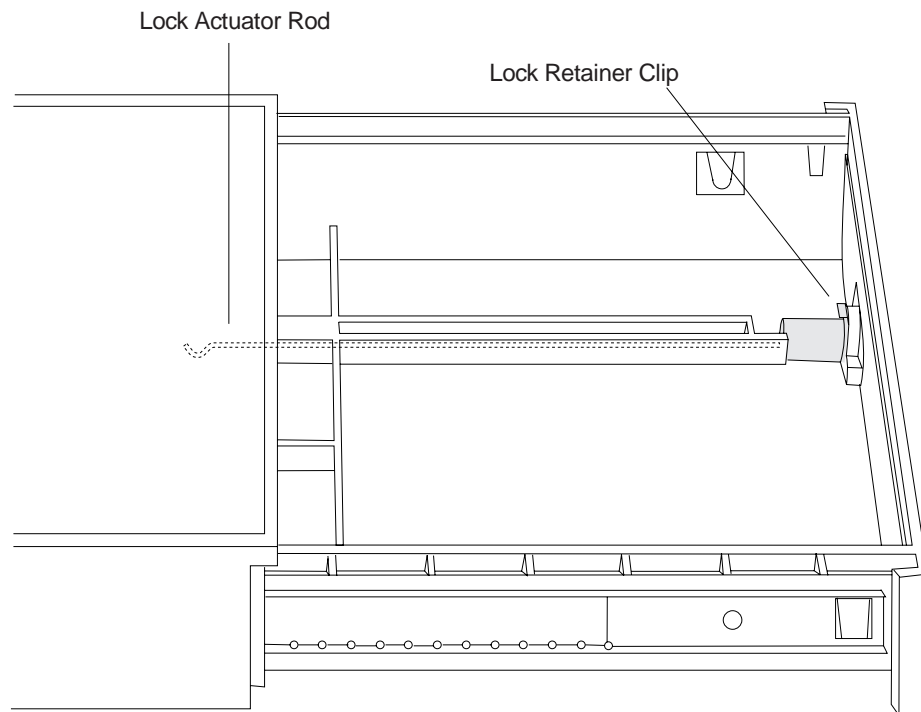

Figure 19. Lock assembly
2. Remove the lock retainer clip holding the lock assembly on the inside of the drawer (see Figure 19).
1. Make sure the lock actuator rod is in the position shown in Figure 19.